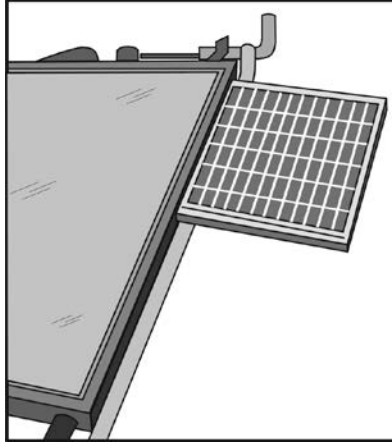

Figure 15 Photovoltaic module
In this control scheme, a photovoltaic module (Figure 15) is installed adjacent to the solar thermal collector and generates direct current (DC) electricity to power a DC pump motor. Because the PV module generates electricity only when the sun shines, the pump circulates water to the collector only when sufficient solar energy is available. To maximize solar collection, some systems also incorporate a pump activator (linear booster) that electronically assists pump start-up.